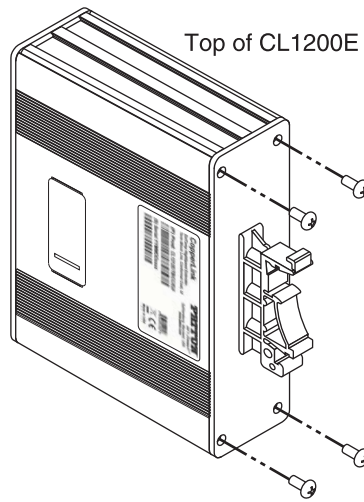

Figure 5. Installing the rear panel.
3. Install the rear panel onto the CL1200E enclosure using the screws removed in step 1 as shown in figure 5 on page 19.